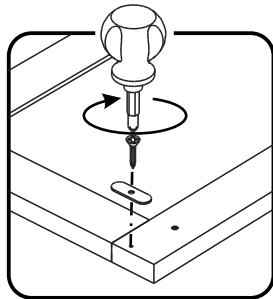

Figure 13
Attach Plates to Doors (N) and (O) with Plate Screws into pre-drilled holes. (See Figure 13)